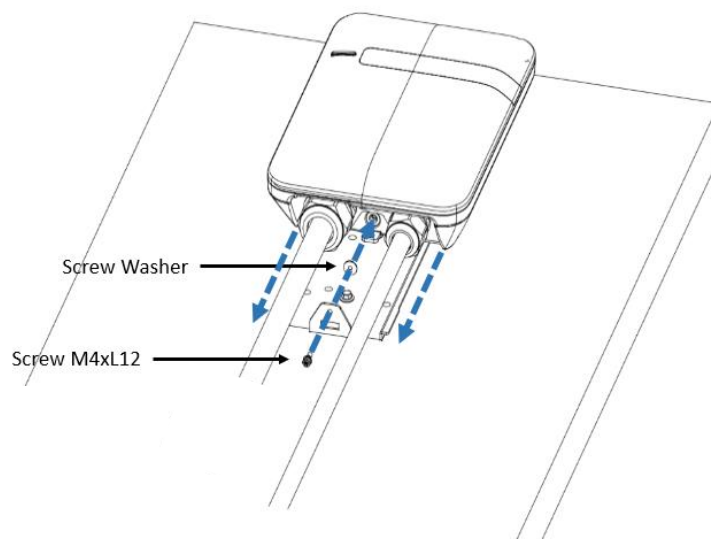

Figure 2-11 Screw locking position
4. Mount the charging station onto the mounting bracket and secure the lock screw as shown in Figure 2-11.